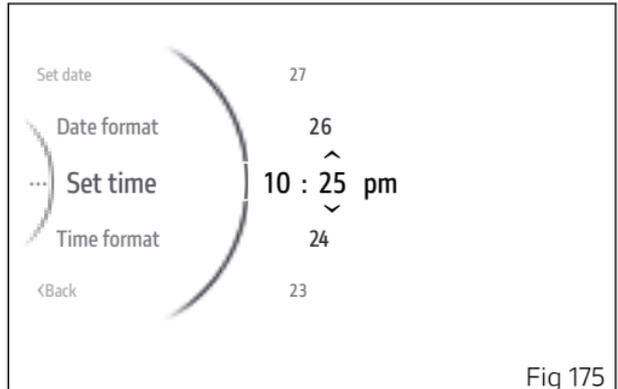

Fig 175
The arrows and available values appear for the number of minutes (Fig 175). Use buttons (1) and (2) to scroll and select the desired value. Press ENTER (3) to confirm and move on to the AM/PM selection.